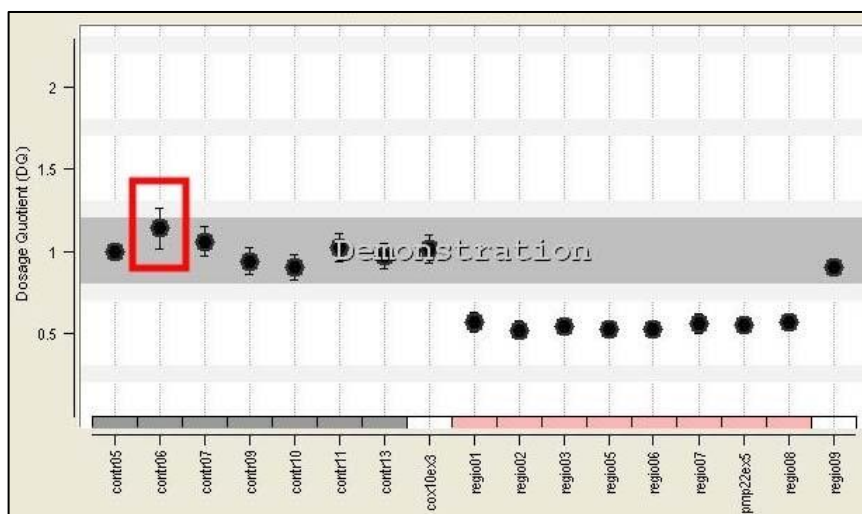

Fig. 12b: The DosPlot showing one data point with its standard deviation
- To determine a dosage quotient, these sets of ratios are then compared to the ratios found in one or more control reads. This results in a set of dosage quotients for every target amplicon. This set of dosages will give rise to (Fig. 12b) one data value (the mean) and a standard deviation (showing its stability).